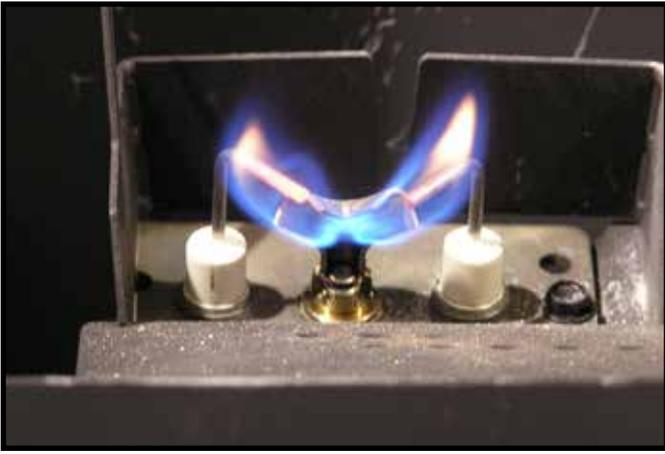

Figure 3.1 IPI Pilot Flame Patterns
- Inspect pilot flame pattern and strength. See Figures 3.1 and 3.2 for proper pilot flame pattern. Clean or replace orifice spud as necessary.